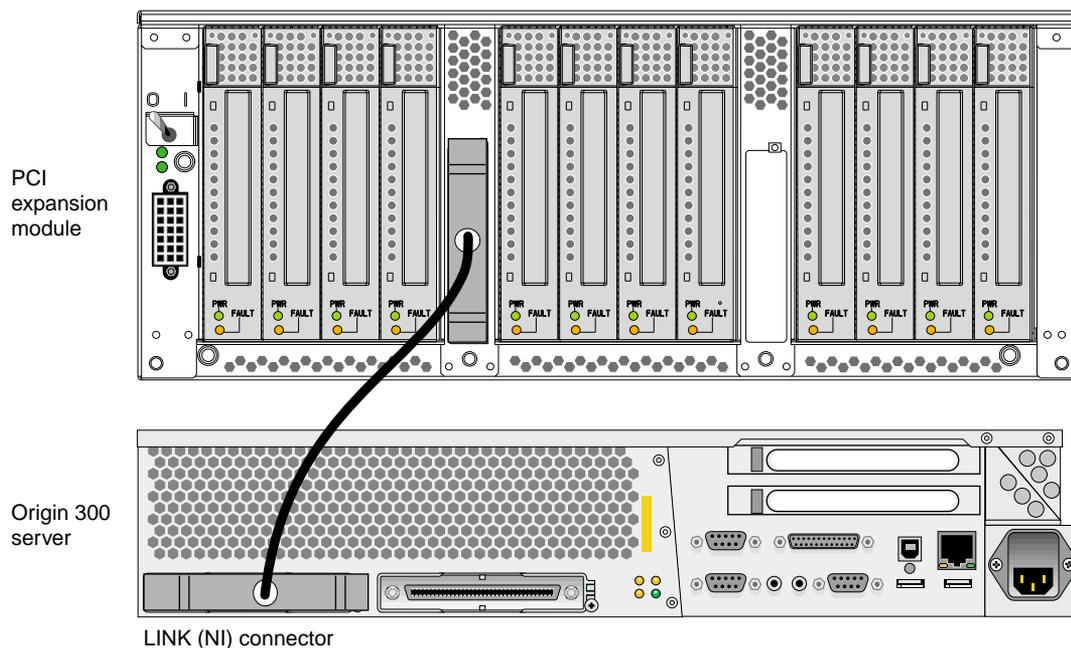

Figure 3-14 Origin 300 Server to PCI Expansion Module Configuration
The PCI expansion module contains one BIC that connects to the NUMalink [LINK (NI)] port of an Origin 300 server in a system that does not contain a NUMalink module (refer to Figure 3-14).
Figure 3-14 shows four PCI expansion modules connected to a NUMalink module.